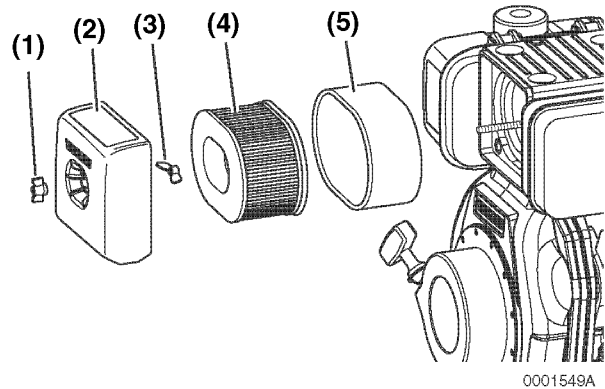

Figure 5-8
1. Remove the wing nut (**Figure 5-8, (1)**).
2. Remove the air cleaner cover (**Figure 5-8, (2)**).
3. Remove the wing nut (**Figure 5-8, (3)**).
4. Remove the air cleaner element (**Figure 5-8, (4)**) and outer foam element (**Figure 5-8, (5)**).
8. Clean the inside of the air cleaner cover (**Figure 5-8, (2)**).
9. Reinstall the air cleaner element (**Figure 5-8, (4)**) into the air cleaner housing.
10. Slide the outer foam element (Figure 5-8, (5)) over the air cleaner element (Figure 5-8, (4)).
11. Reinstall the wing nut (Figure 5-8, (3)) and hand-tighten. Over-tightening the wing nut will damage the air cleaner assembly.
12. Reinstall the air cleaner cover (Figure 5-8, (2)).
13. Reinstall the wing nut (Figure 5-8, (1)) and hand-tighten. Over-tightening the wing nut will damage the air cleaner assembly.